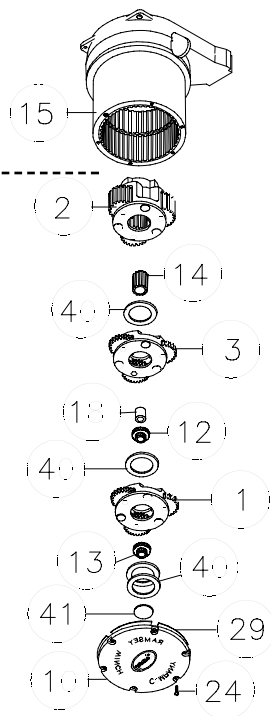
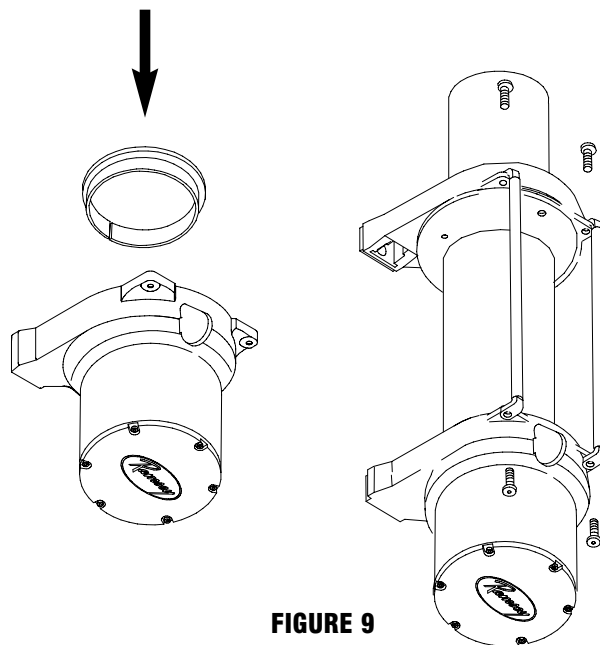

FIGURE 7
FIGURE 9
3. Gently lift the Gear Housing assembly, working the gears, bushings, etc. that are inside the Gear Housing out so that they are left stacked on the workbench. See Figure 7.
4. Turn the Gear Housing assembly over and set on workbench. Remove the Retainer (item #38) by removing six capscrews (item #23) from Gear End Bearing (item 16). Once the retainer is removed, the Ring Gear (items #15 &31), Cam Ring (item #36), and Locking Ring (item #35) can be lifted off the end bearing. Remove the six springs (item #39) from the end bearing.
8. Reassemble Gear Housing as shown in Figure 7. Make sure locking ring is positioned with stop post at marked location. The capscrews (item #23) for the retainer should be tightened to 40-45 in-lbs. **Do not over-tighten.**
9. Place Gear Housing over the stacked gears, etc. that you removed in step 3. Gently work the housing over the stack, turning it as needed to mesh the planetary gears with the ring gear in the housing. Once they are all in the housing, flip the assembly over. Align the Gear Housing Cover and gasket with the holes in the ring gear. Replace the (6) capscrews that hold the Gear Housing Cover onto the Gear Housing. Tighten securely.
11. Turn the Gear Housing over and set it on the work bench with the Gear Housing Cover down. See Figure 9.
13. Place the tiebars on the motor end and gear end and fasten using (4) screws. Tighten securely.